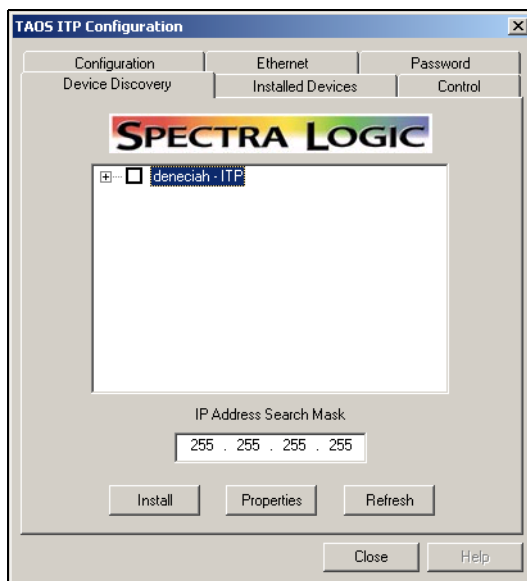

Figure 7-18 *Device Discovery on the TAOS ITP Configuration control panel.*
9. The TAOS ITP Configuration window appears (Figure 7-18).